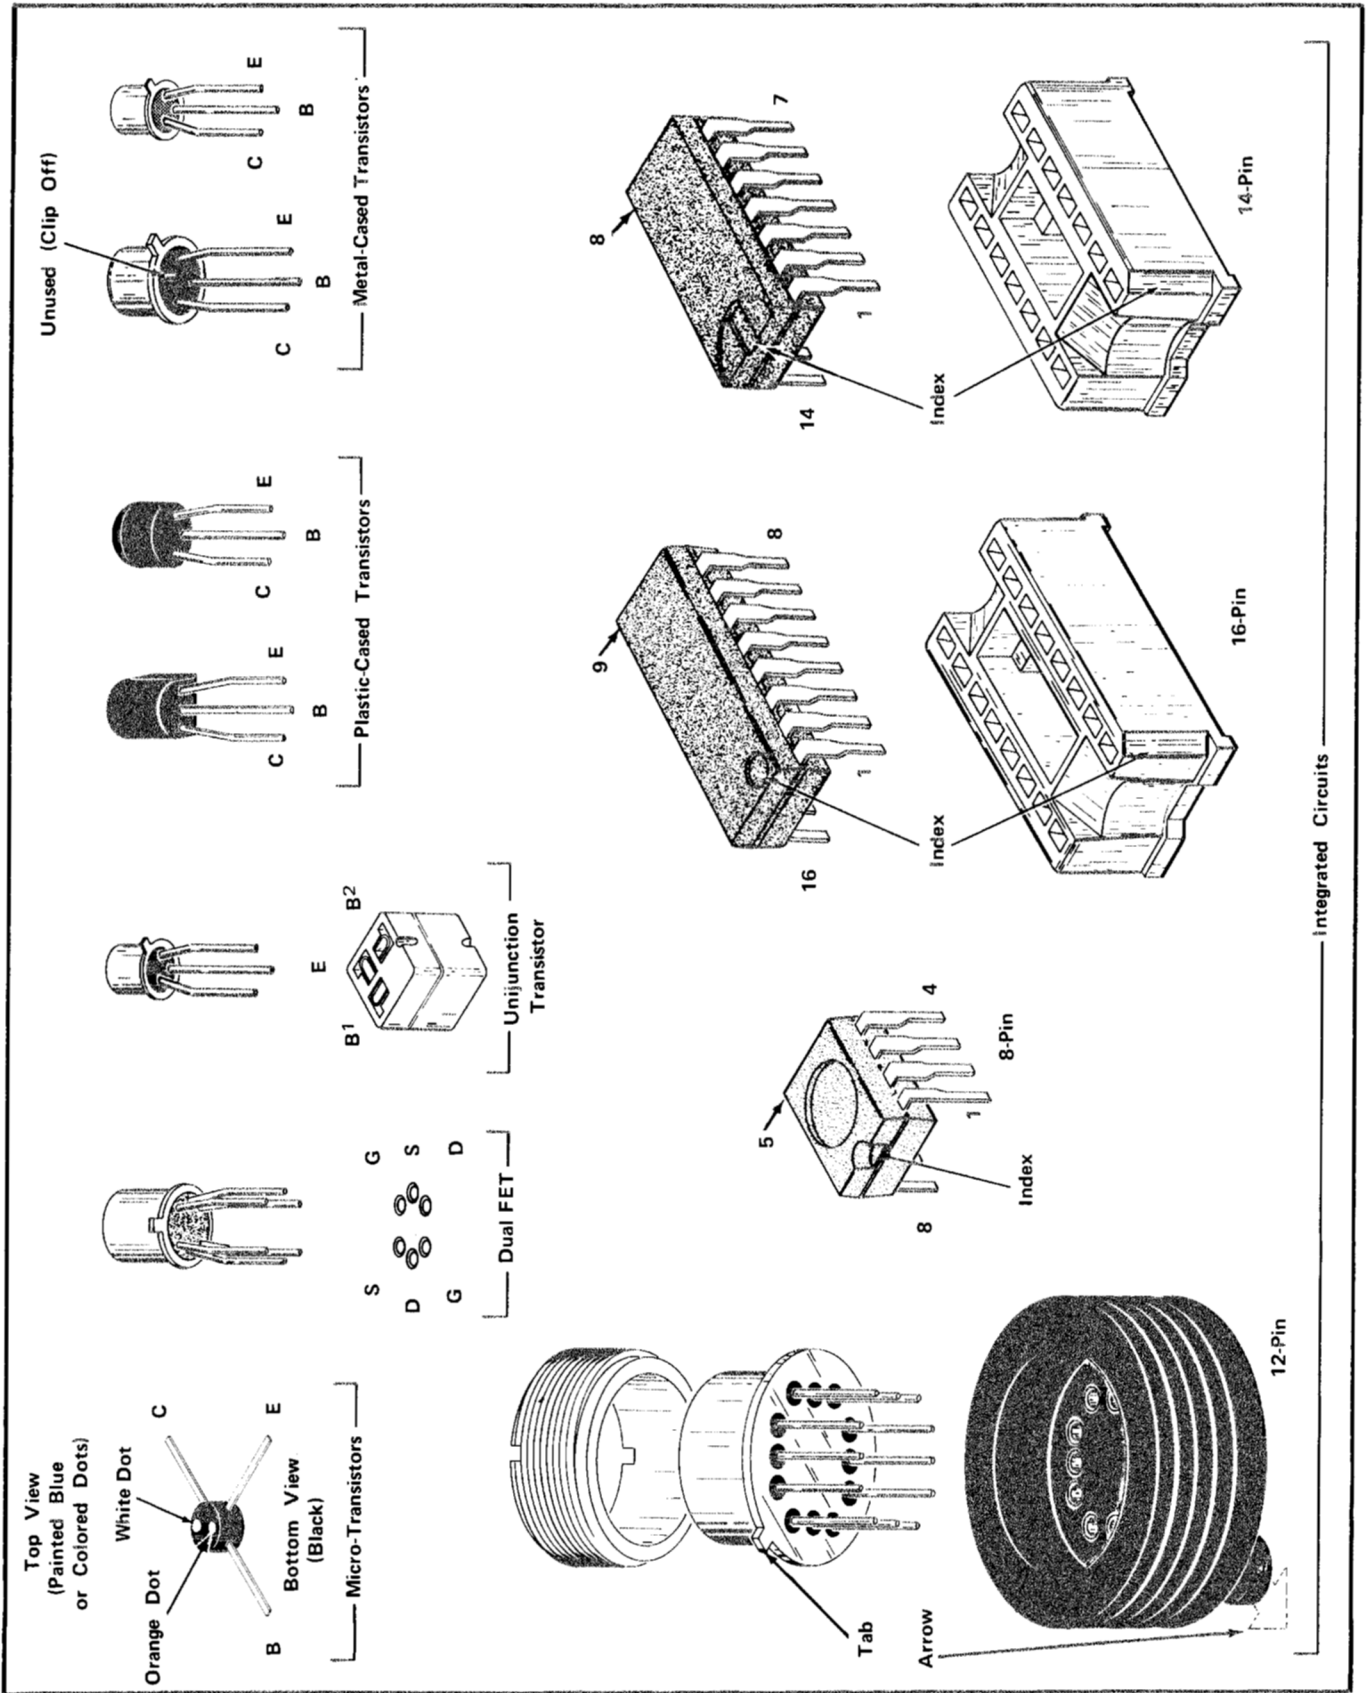

Fig. 4-1. Electrode configuration for semiconductors in this instrument.
**Semiconductor Lead Configuration.** Fig. 4-1 shows the lead configuration of the semiconductor devices used in this instrument.
**A. TRANSISTORS AND INTEGRATED CIRCUITS.** The best check of transistor and integrated circuit operation is actual performance under operating conditions. If a transistor or integrated circuit is suspected of being defective, it can best be checked by substituting a component known to be good; however, be sure that circuit conditions are not such that a replacement might also be damaged. If substitute transistors are not available, use a dynamic tester (such as Tektronix Type 576). Static-type testers may be used, but since they do not check operation under simulated operating conditions, some defects may go unnoticed. Fig. 4-1 shows base pin and socket arrangements of semiconductor devices. Be sure the power is off before attempting to remove or replace any transistor or integrated circuit.